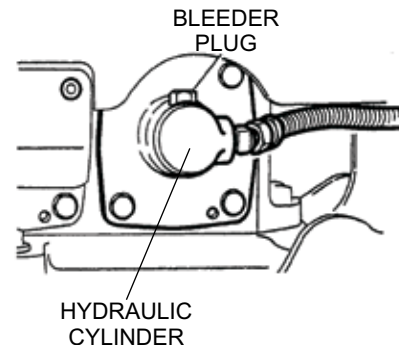

Figure 34. Bleeder Plug
3. Loosen bleeder plug located at top of hydraulic cylinder on side of vibrator (Figure 34). Air remaining in the circuit will be forced out of the bleeder plug. Once all air has been purged from the hydraulic system, tighten bleeder plug securely